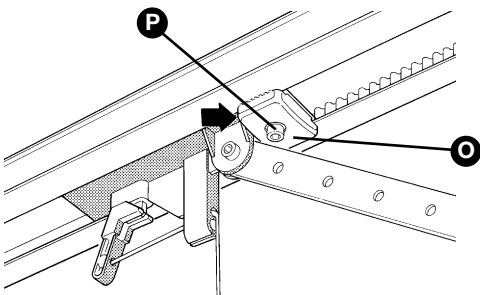

Figure 43
**9** Loosen the screws in the two mechanical stops, then place the front mechanical stop **[O]** before the carriage (Figure 43). Push the carriage hard in the closing direction and, in the reached position, tighten the screw firmly **[P]**.